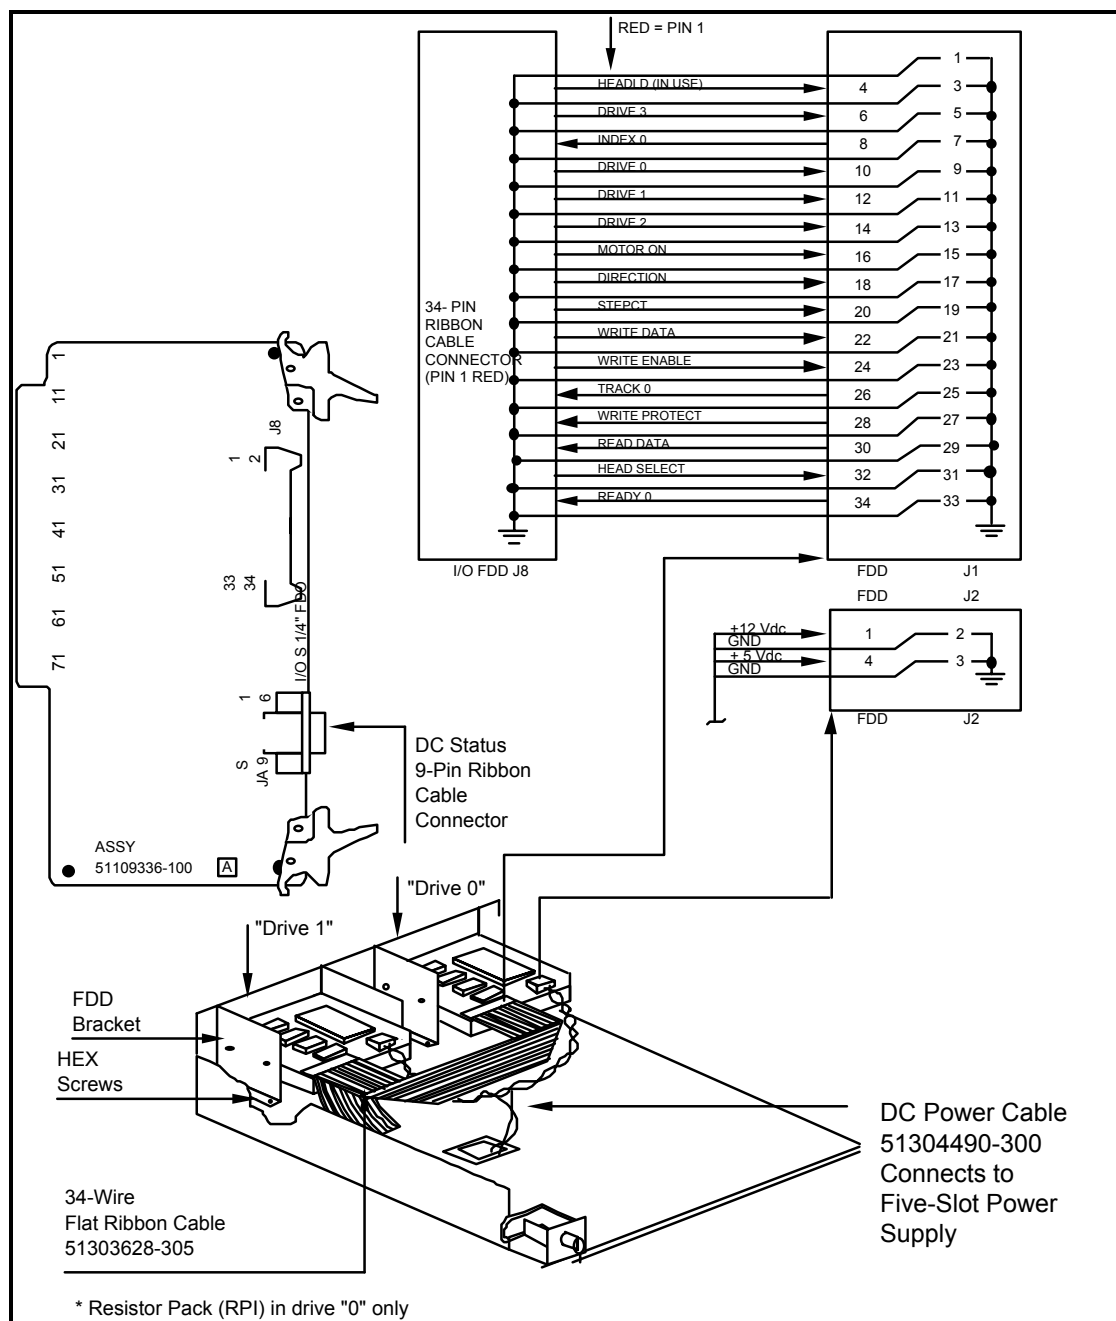

Figure 11-1 — FDD Interface Connections (Showing DC Power Cable That Connects to Five-Slot Power Supply) 4 139
Input power should be +4.75 Vdc to +5.25 Vdc and +11.4 Vdc to +12.6 Vdc measured at the input to the FDD (see Figure 11-1).
2. Set the FDD Power Supply Switch to "0" (OFF), (see Figure 11-2). If there is no FDD Power Supply, disconnecting the power cable from the J2 on the FDD will remove power. See Figure 11-1 for the location of J2.